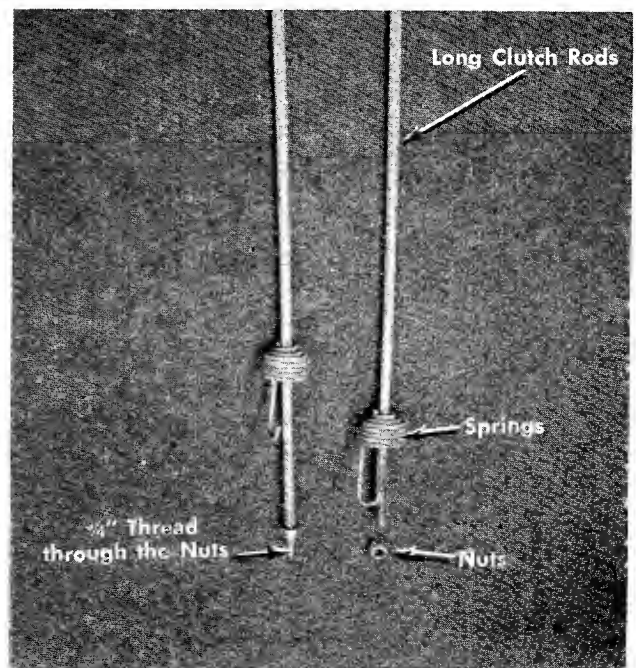

FIGURE 9
15. Slide the springs over the threaded end of the long clutch rods and screw the nuts on until $\frac{3}{4}$ " of threads are extended through the nuts. See figure 9.